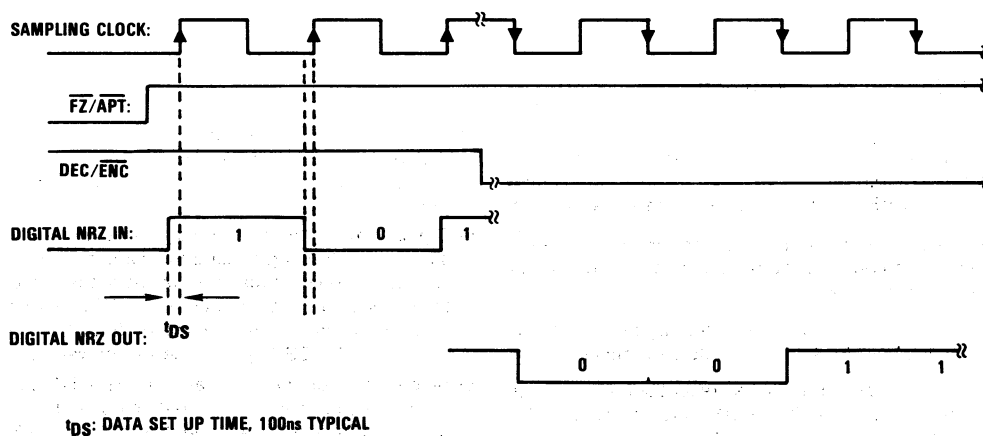

FIGURE 2. CVSD TIMING DIAGRAM
1. There is one NRZ (Non-Return Zero) data bit per clock period. Data is clocked out on the negative clock edge. Data is clocked into the CVSD on the positive going edge (see Figure 2). Clock may be run at less than 9Kbps and greater than 64Kbps.